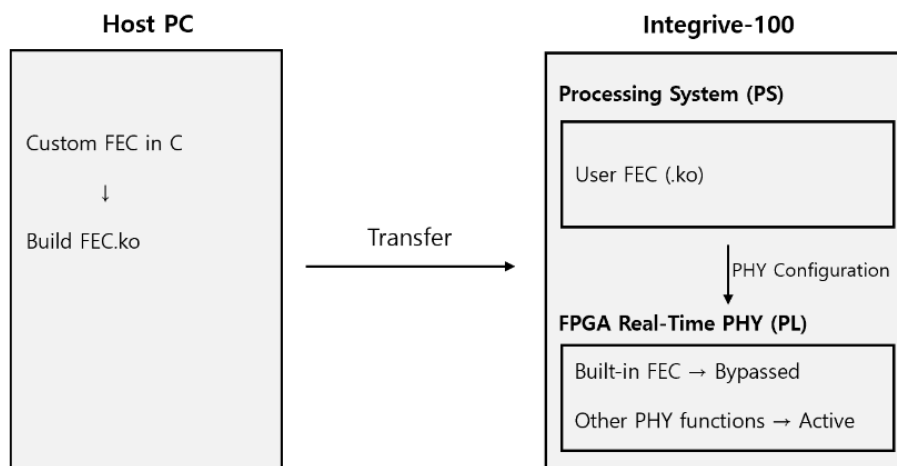

Figure 5-2. User-Developed PHY Function Execution Model
Figure 5-2 illustrates the execution model using a custom FEC algorithm as an example. The user develops the FEC algorithm in C on the host PC and builds it as a compatible Linux kernel module (.ko). The module is then transferred to Integrive-100 and executed on the Processing System (PS).